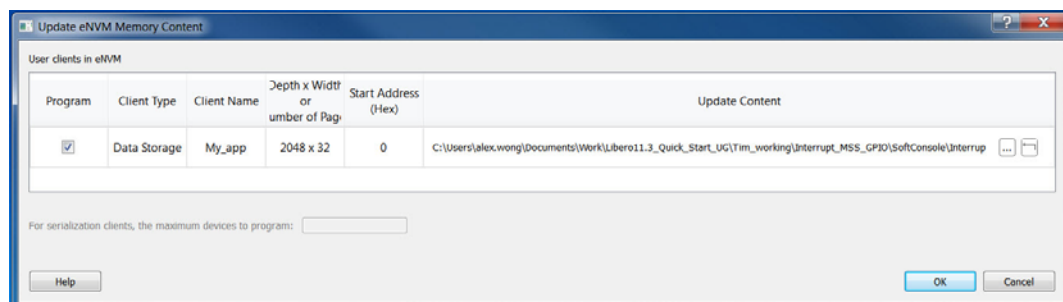

Figure 6-20 • Update eNVM Memory Content Dialog Box
2. The Update eNVM Memory Content dialog box appears (Figure 6-20).